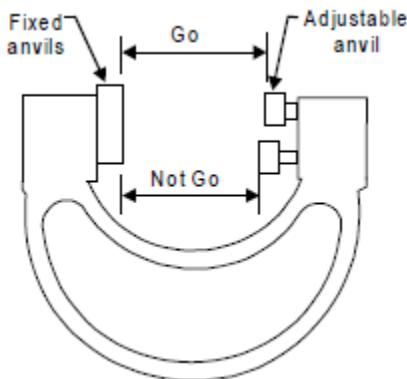

Fig. 30 An adjustable gap gauge
9. Adjustable gap gauge (Fig. 30)